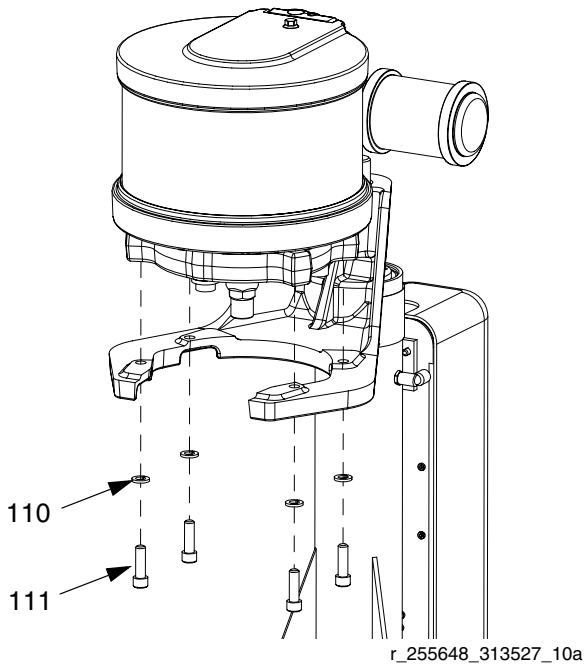

FIG. 27
1. Attach motor to mounting bracket with screws (111) and washers (110). See FIG. 27.